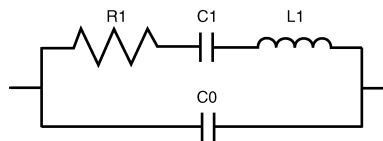

Figure 13. Crystal Equivalent Circuit
1. Load Capacitance: For resonance at the correct frequency, the crystal should be loaded with its specified load capacitance, which is the value of capacitance used in conjunction with the crystal unit. Load capacitance is a parameter specified by the crystal, typically expressed in pF. The crystal circuit shown in Figure 13 is composed of:
The C_L above does not include the crystal internal self-capacitance C₀ as shown in Figure 13, so the total capacitance is: